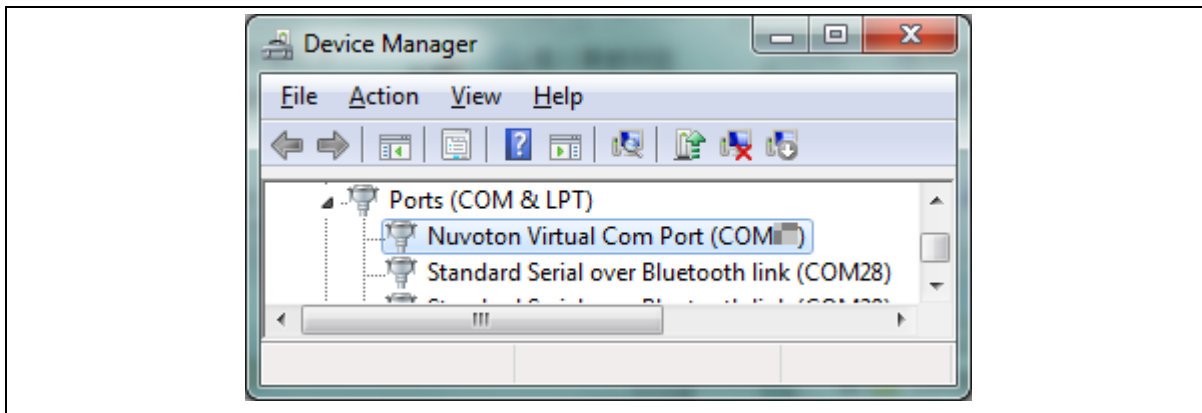

Figure 5-5 Device Manger
- 3. Find the “Nuvoton Virtual COM Port” on the Device Manger as Figure 5-5.